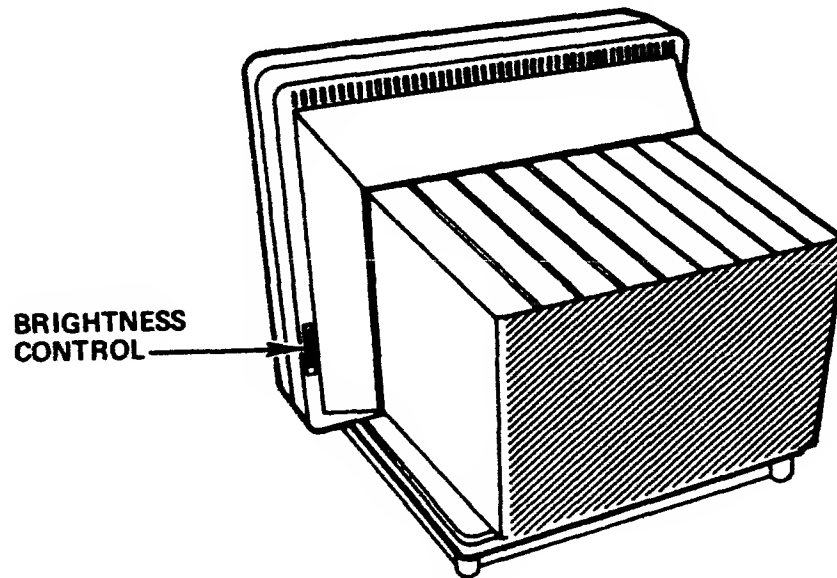

Figure 2-26. Brightness Control Knob
3. Swivel and tilt the screen to adjust it for your comfort. Adjust the screen intensity by turning the brightness control knob, located behind the screen on the right side (Figure 2-26).